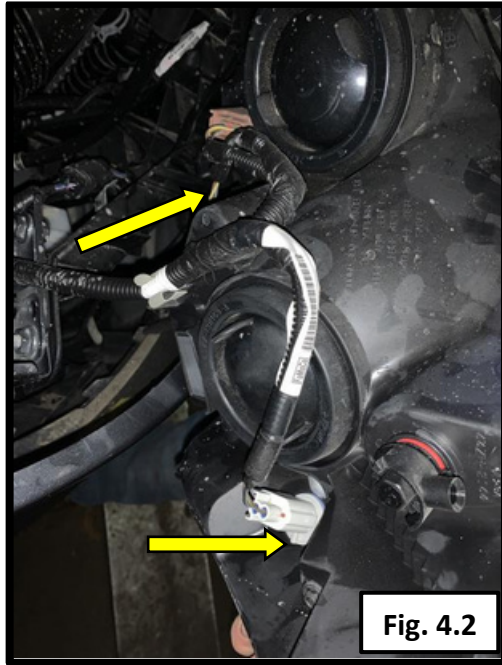

Fig. 4.2
- Unplug all the wiring harnesses connected to the headlight. See Fig.4.2.